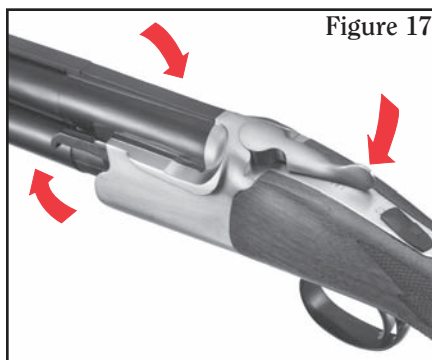

Figure 15
3. To attach the barrel assembly to the receiver, hold the stock by the pistol grip in one hand as shown in Figure 15. Make sure the top lever is opened in order to accept the barrel assembly. Hold the barrel assembly in the right in order to accept the barrel assembly. Hold the barrel assembly in the other hand. Lower the barrel assembly into the receiver and engage the integral trunnions in the receiver with the corresponding recesses at the front end of the monobloc.